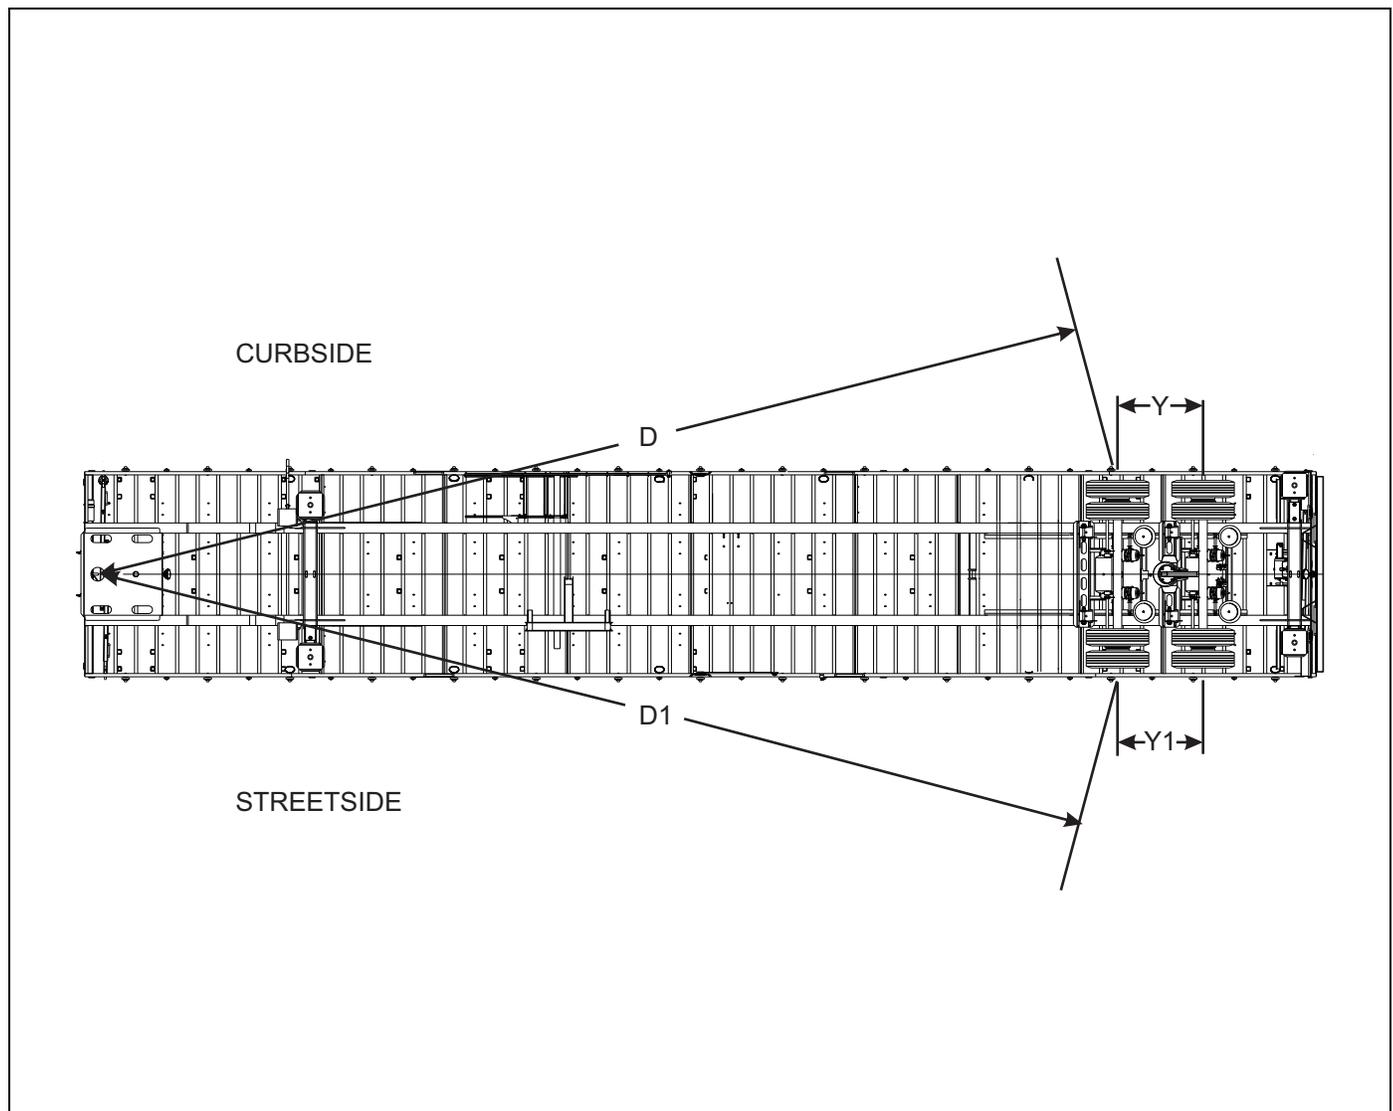

Figure 4-4: Checking Axle Alignment
4. Measure (D) from the plumb bob to the center point on one end of the axle. Record this measurement **(See Figure 4-4.)**
5. Measure (D1) to the other end of the axle in the same manner as in **step 4**. Record this measurement **(See Figure 4-4.)**